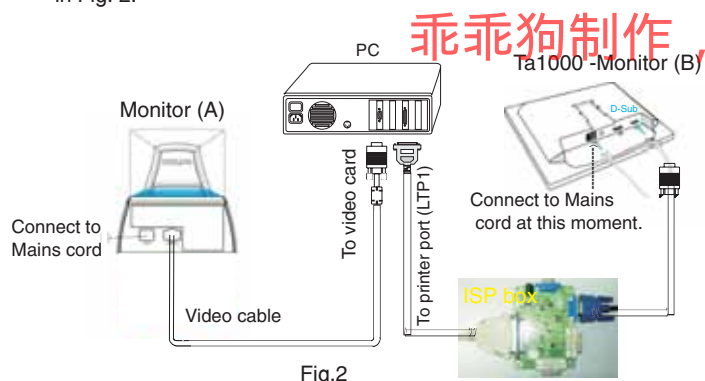

Fig.2
5. Connect DDC2BI_ISP TOOL and Mains cord to Monitor as shown in Fig. 2.